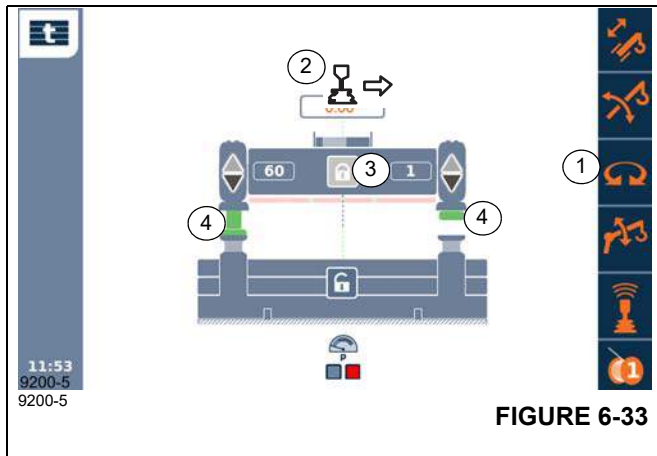

FIGURE 6-33
- The lifting cylinders must be fully retracted – symbol (4), (Figure 6-33) green.
- The swing gear must be switched on – symbol (1) green.
- Symbol (3) active,
- Symbol (2) displayed.